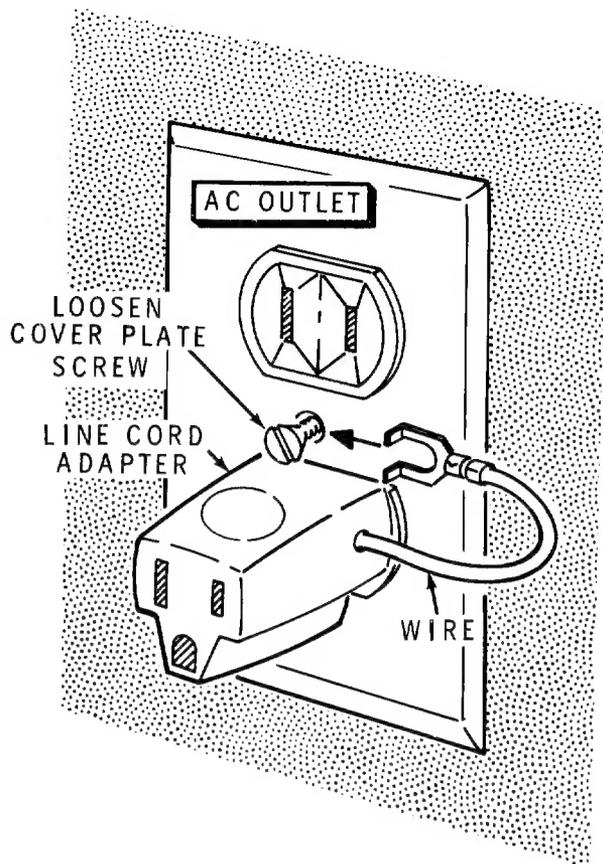

Figure 6
7. Refer to Figure 6 and insert the adapter into the 2-prong socket in the AC outlet.